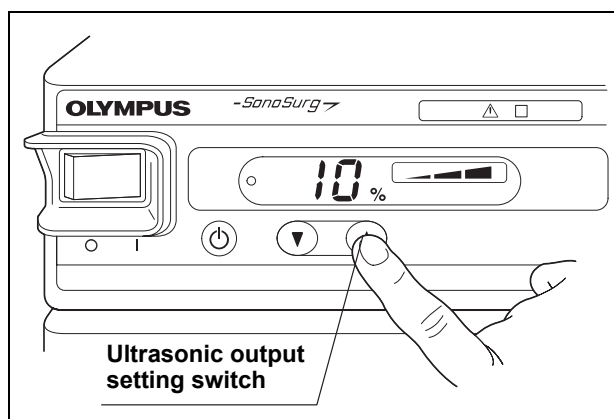

Figure 5.8
2. Set the output level to “10%” by pressing the ultrasonic output setting switches on the SonoSurg generator (see Figure 5.8).